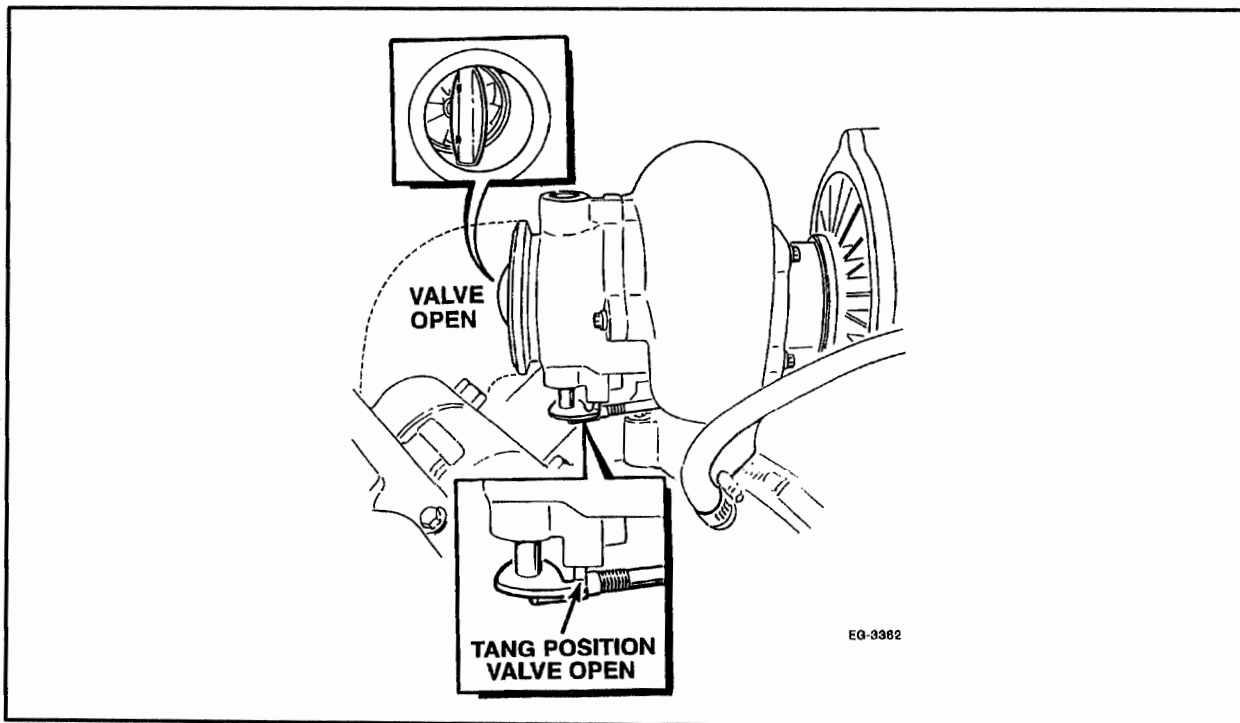

Figure 2.3-8. – Checking Position of Exhaust Back Pressure (butterfly) Valve At High Idle
4. The exhaust back pressure valve should be open. **(Figure 2.3-8.)** illustrates position of **tang** on bellcrank of the back pressure device when the exhaust back pressure (butterfly) valve is open. (If so equipped)